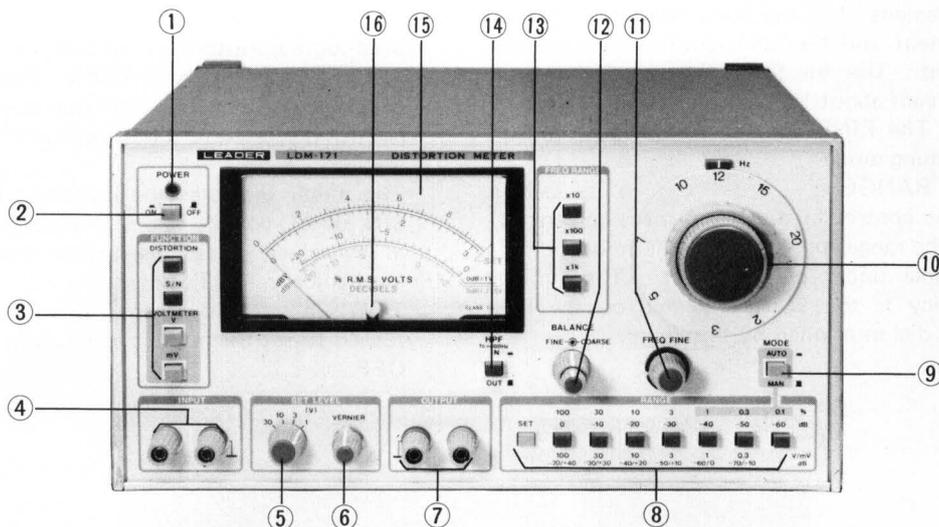

Fig. 3-1
3.1 Front Panel (Fig. 3-1)
- ① **POWER** (Pilot lamp)